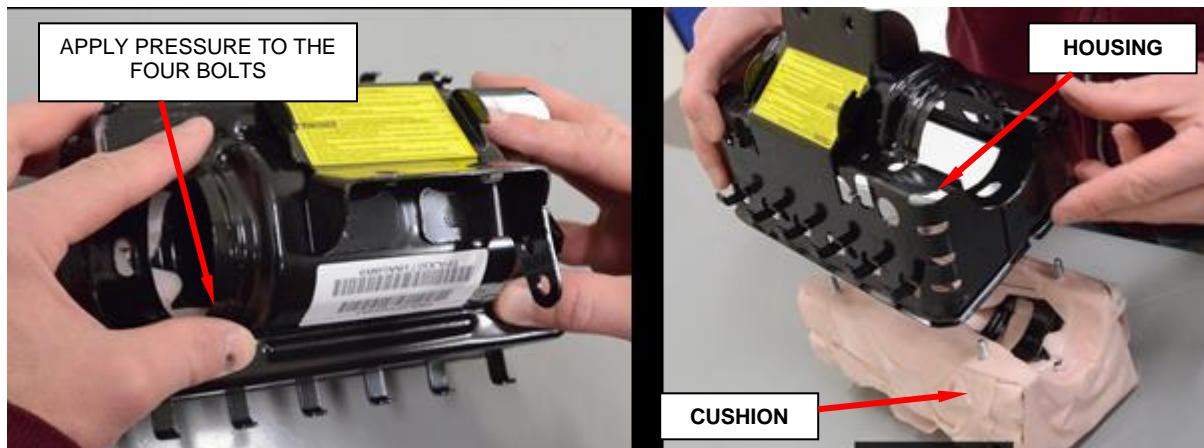

Figure 93 – Remove Airbag Cushion from Housing
h. Remove airbag cushion from housing by applying pressure to the bolts, set cushion aside (Figure 93).